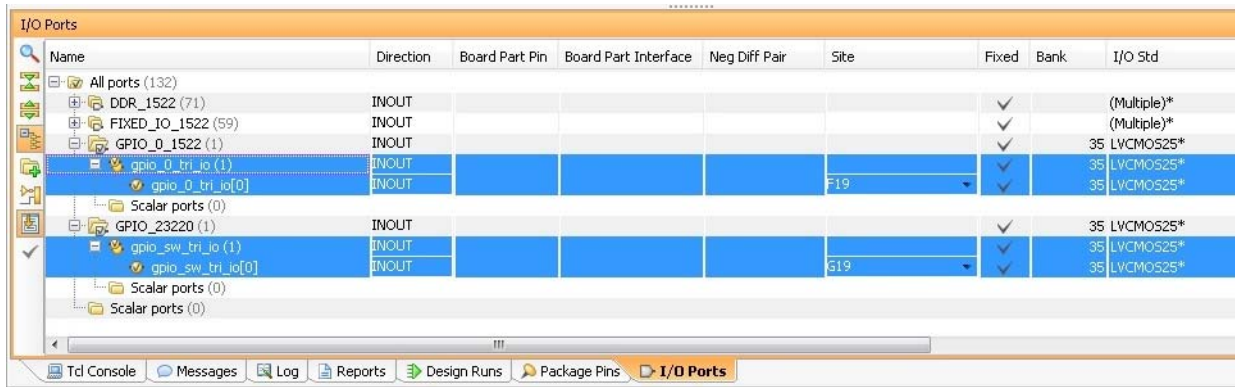

Figure 3-9: I/O Port Properties
28. Find **gpio_0_tri_io[0]** and set the following properties, shown in Figure 3-9:
29. Find **gpio_sw_tri_io[0]** and set the following properties, shown in Figure 3-9: